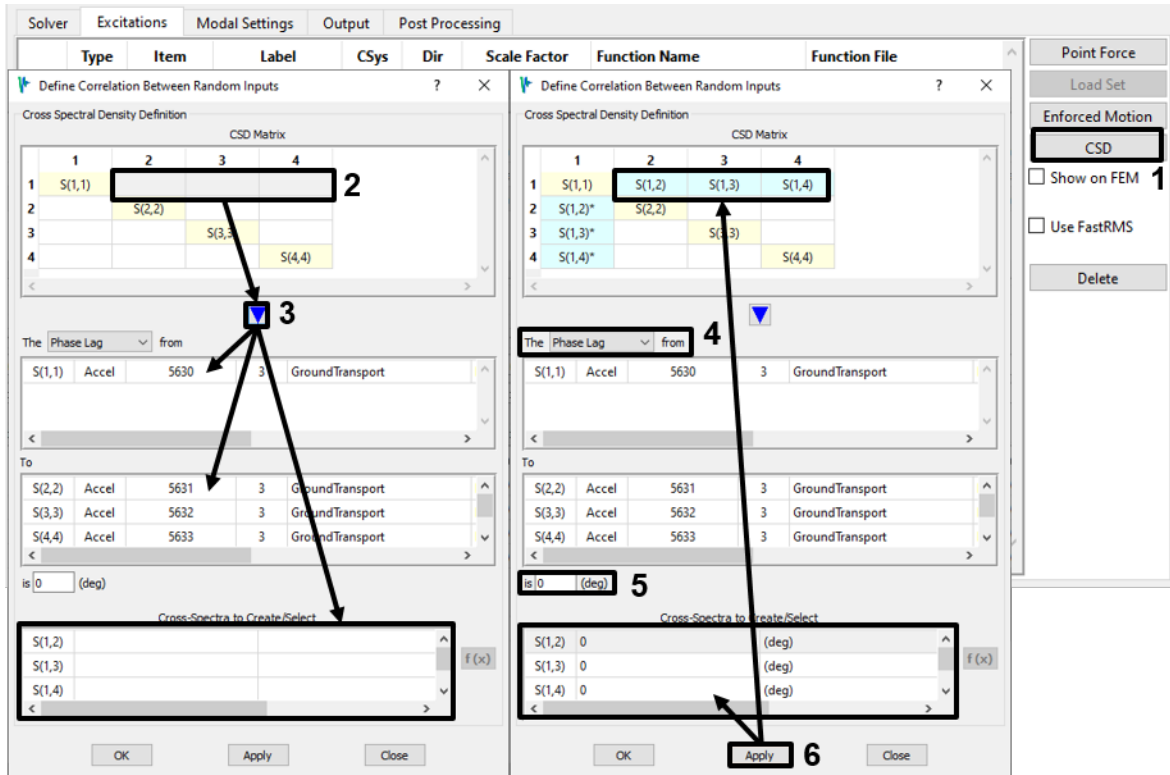

Figure 4-61. Define 0-degree phase lag correlations from the first input PSD to the other three.
2. On the *Excitations* tab, bring up the CSD dialog. Select the entire first row of the *CSD Matrix* table and click the **Assign Selected CSD** button  (Figure 4-61). This prepares the dialog to create correlations from the first input PSD to the other three PSDs. Make sure the **CSD Type** pulldown is set to *Phase Lag* and the **Phase/Time**